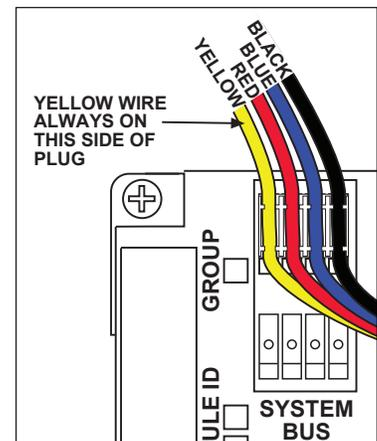

Figure 22. Observe correct System Bus polarity. It is fine to leave one header unused.
3. Connect the system bus to all modules having headers marked System Bus. The connectors are polarized, so they should only connect in one direction, but always make sure to prevent the possibility of plugging the system bus to the header backwards (See Figure 22).